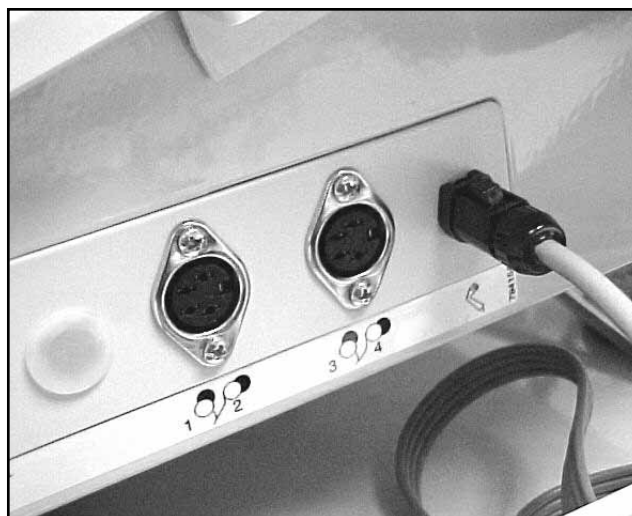

FIGURE 5.22
3. Plug Applicator into Applicator port on the R.H. side of the unit. See Figure 5.22.